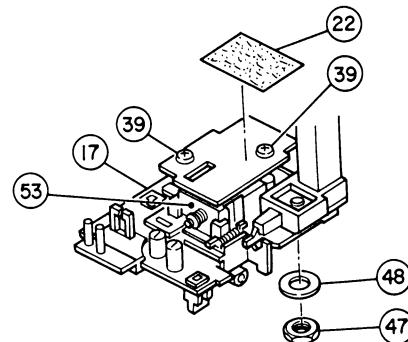

Figure 7
(D) Removal of the Tone Arm (HD301) (Figure 7)
- Remove the sheet (22) located above the Sensor P. C. Board which is fastened to Bracket Assembly (17).
- Remove the 2 screws (39) that fasten the Sensor P. C. Board.
- Remove the solder from the terminal of the solenoid coil (53).
- Take off the hexagonal nut (47) and the washer (48), then remove the Tone Arm Assembly (HD301).